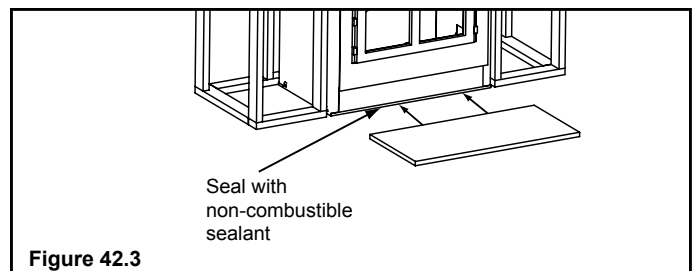

Figure 42.3
7. The non-combustible Super Calstick may be used for sealing between the fireplace and the hearth extension. Refer to Figure 42.3.